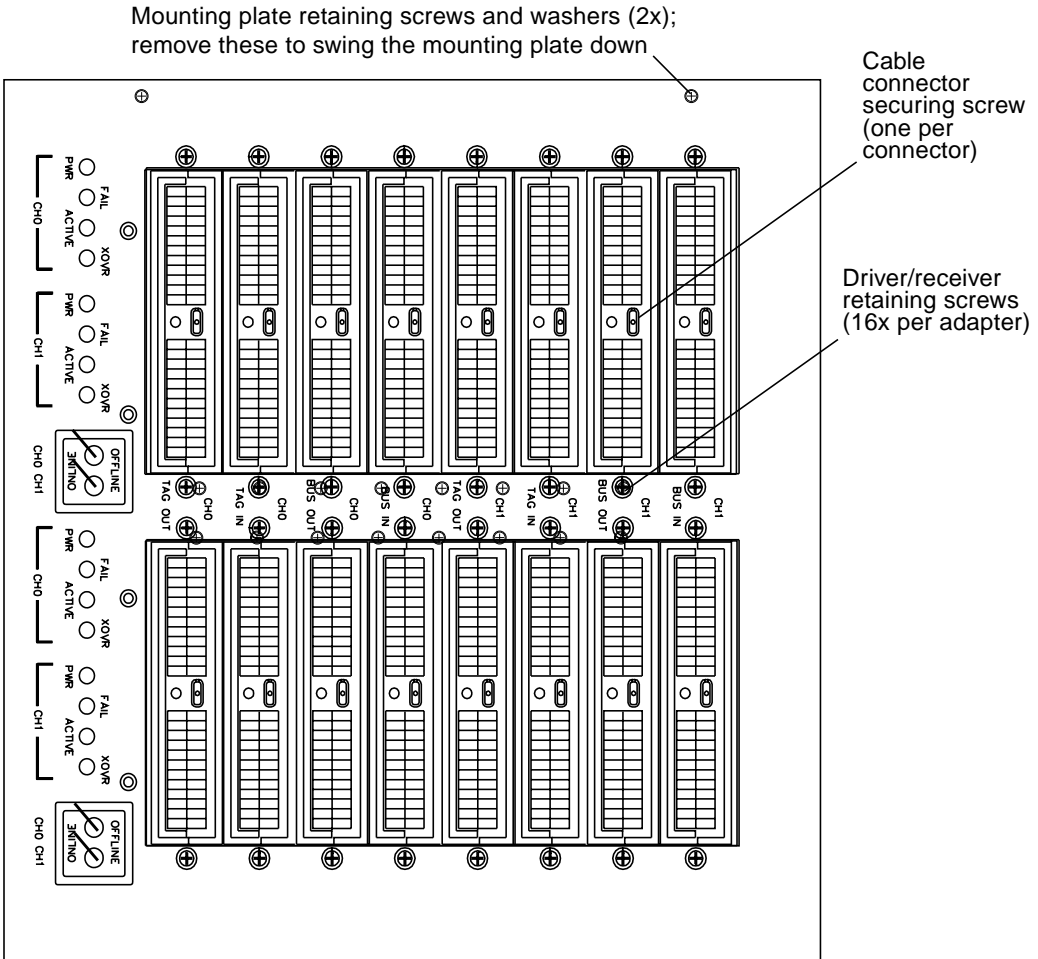

FIGURE 6-41 Mounting Plate and Driver/Receiver Screw Locations
1. **Remove the two mounting plate retaining screws and washers shown in FIGURE 6-41.**